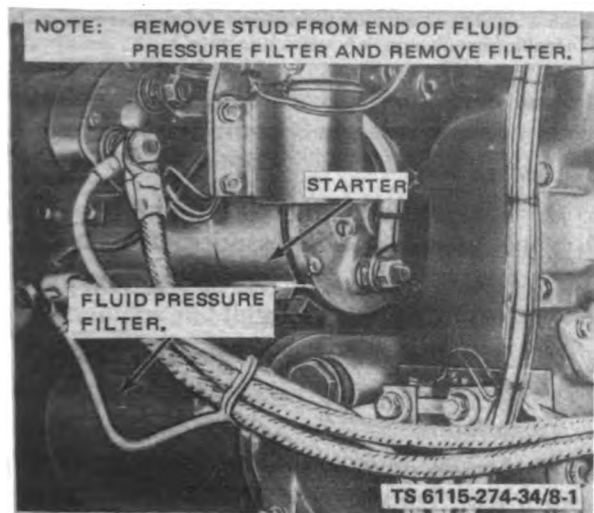

Figure 8-1. Fluid Pressure Filter, Removal and Installation
(1) Remove the radiator drainplug and drain the coolant into a suitable container.
(2) Refer to figure 8-1 and remove stud from end of fluid pressure filter and remove filter.
(17) Install the fluid pressure filter (refer to fig. 8-1) and install stud in end of filter.
(18) Install radiator drainplug and fill radiator with proper solution.